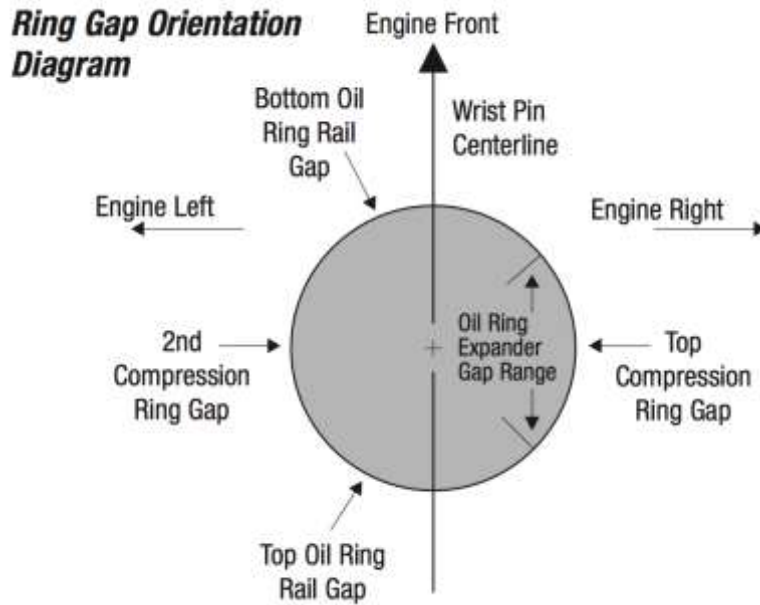

Figure 5
- End gaps in the top two rings should be staggered approximately 180° apart as per figure 5.